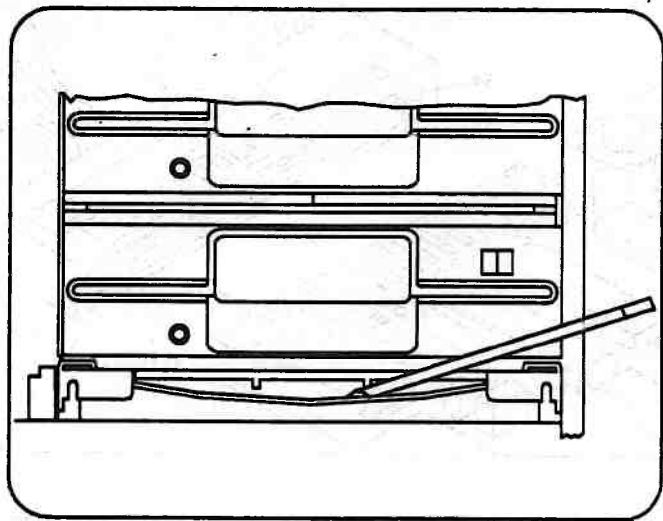

Figure 5-8. Unlocking Drive Assembly
8. Unlock the drive assembly using a screwdriver and slide it forward enough to gain access to the cables (Figure 5-8).